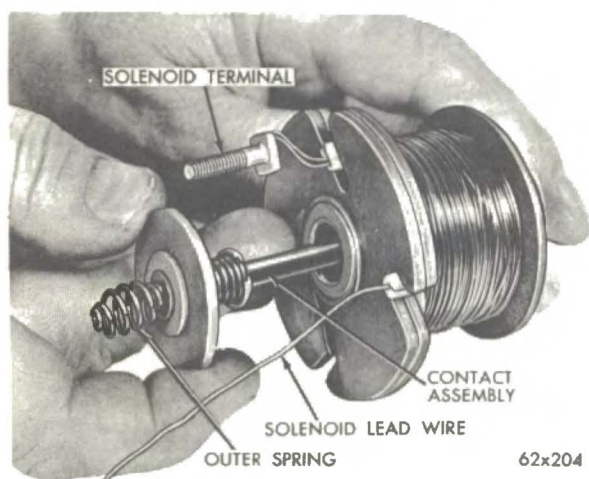

Fig. 10 Removing Contact Assembly
(12) Remove the nut, steel washer and nylon washer from starter battery terminal.
(13) Remove the starter battery terminal from holder plate.
(14) Remove solenoid contact assembly (See Fig. 10).